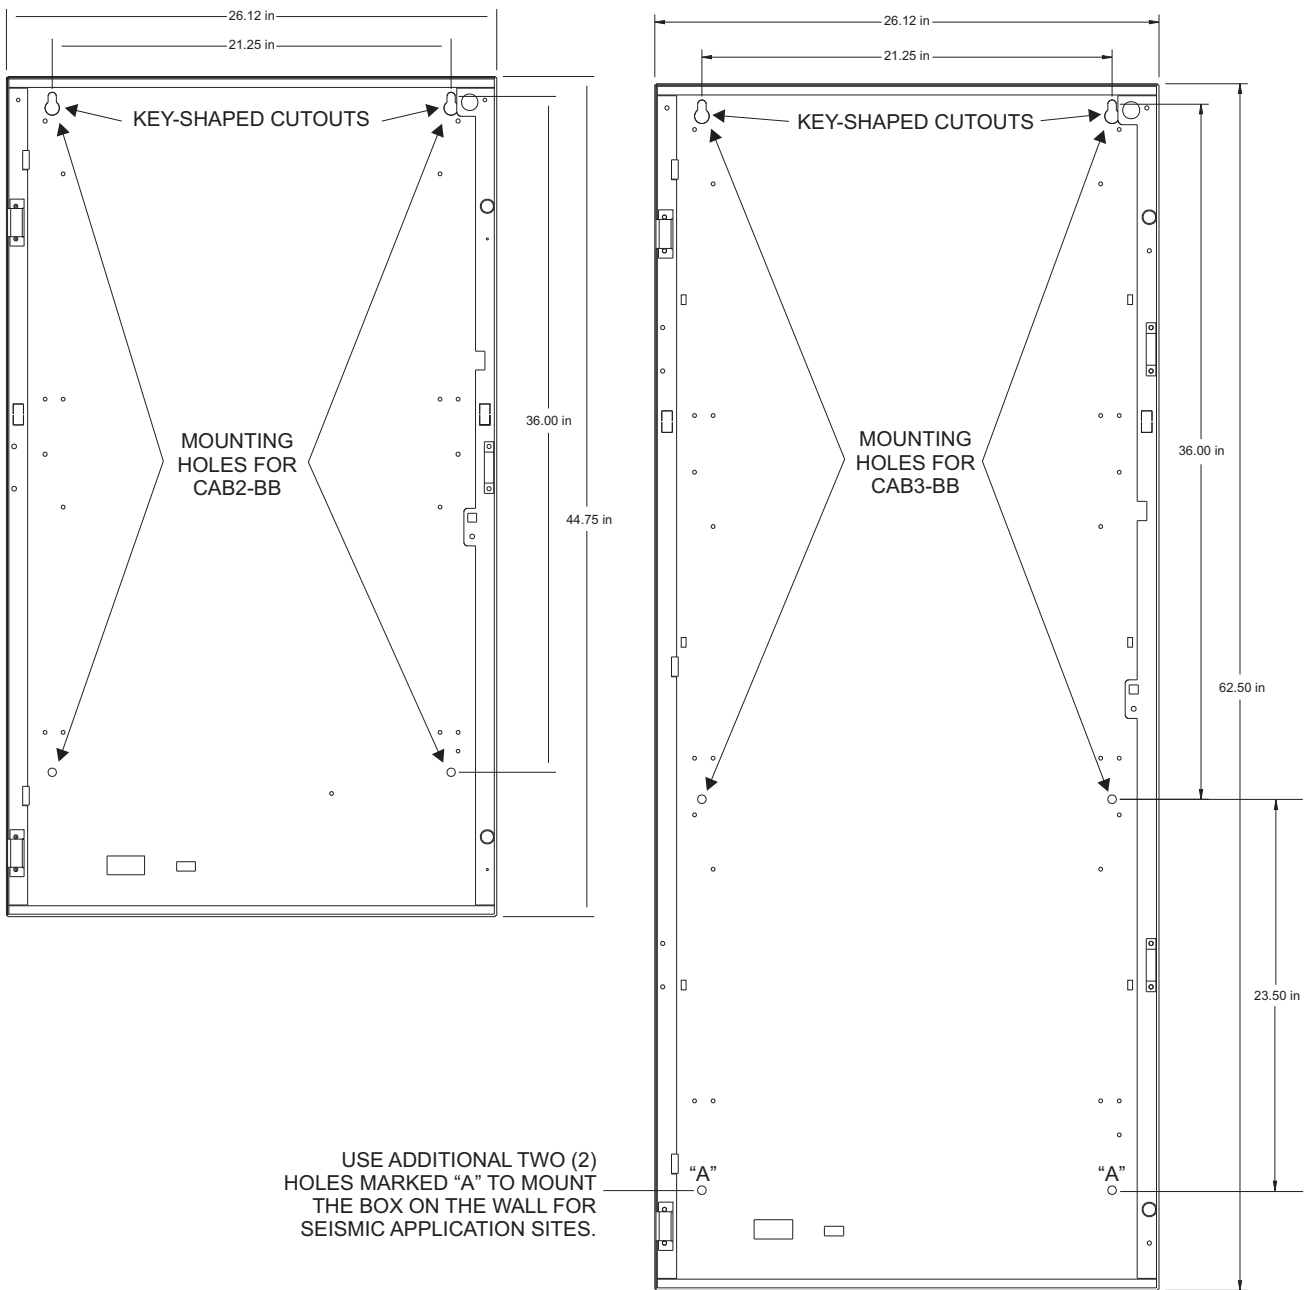

Figure 2
3. Mark the locations of the two upper mounting bolts of the backbox on the wall. (Refer to Figure 2.)
There are two key-shaped cutouts on the top of the backbox. Make sure the end with the two key-shaped cutouts is on top when installing the backbox. (Refer to Figure 2.)